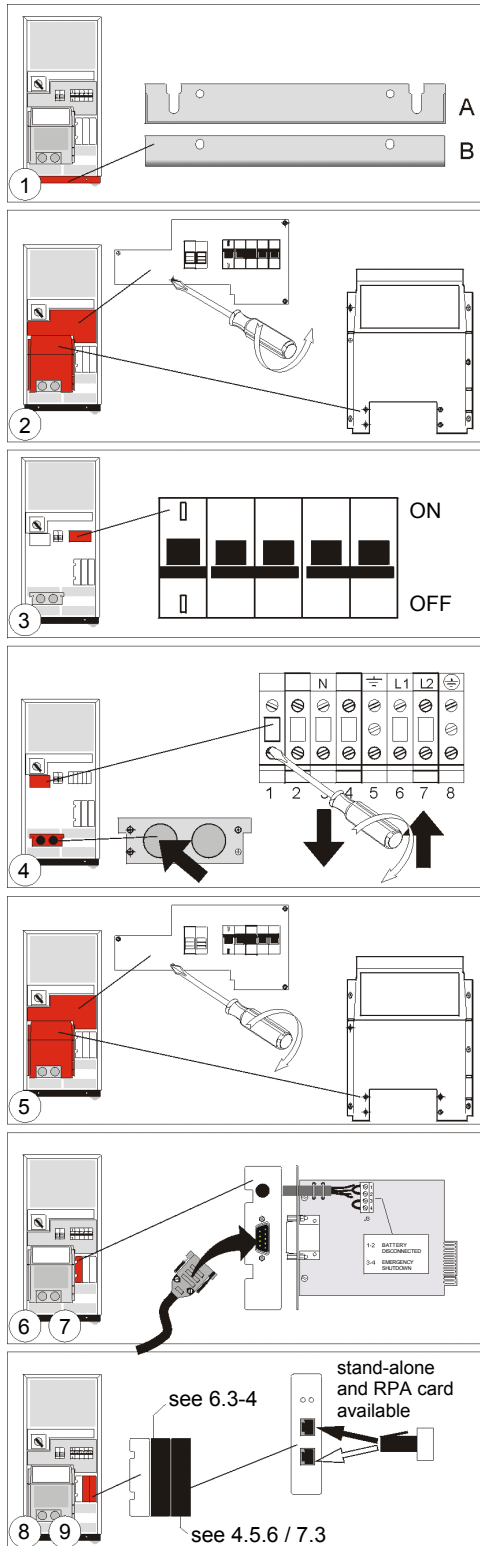

Figure 6. LP 5/68/10-11U:
1. Mount the levellers: position A to fix the UPS to the floor, position B to lift the castors from the floor. Please refer to figure 6, step 1.
2. Loosen the screws and remove the conduit boxes (17, 2x) and the cover plate (11).
3. Make sure that all circuit breakers (7-8-9) are in 'off' position (down). Please refer to fig. 6, step 3.